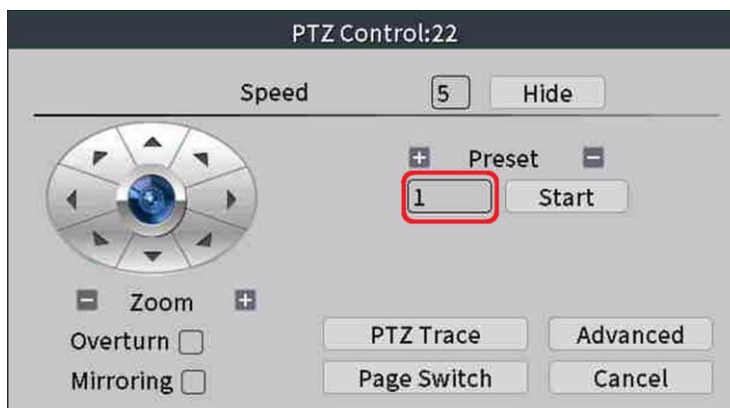

Figure 26. Preset point setup
- Step 2: enter the preset point number and press the “+” to record in the “Preset” section (see Fig. 26);